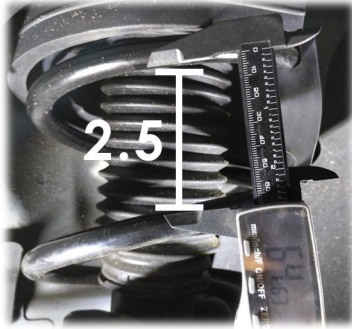

Fig.1
2. Measure your Coil Spring Gap (ex. 64.7mm / 2.5") – Fig 1